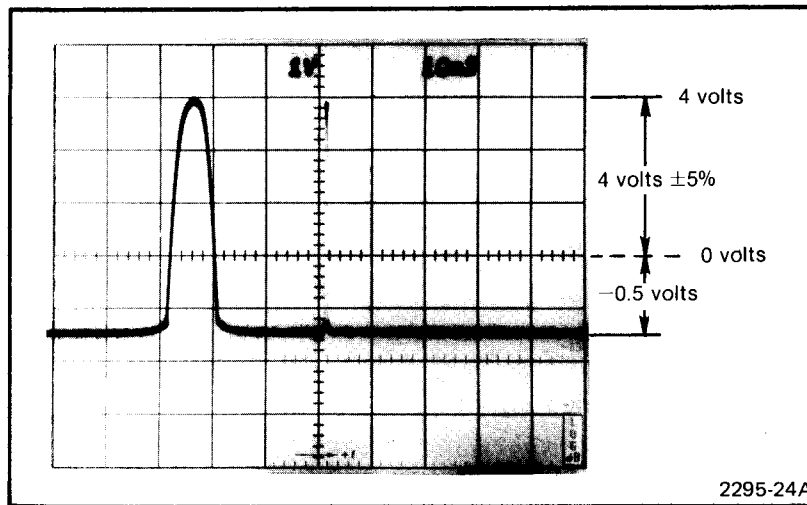

Fig. 4-16. Video Output Test Waveshape.
c. Check the amplitude of the video output signal using the test oscilloscope. Note the dc zero volt level. Video amplitude should equal 4.0 volts  $\pm 0.2\text{ volt}$  as measured from the zero voltage reference level. See Fig. 4-16.